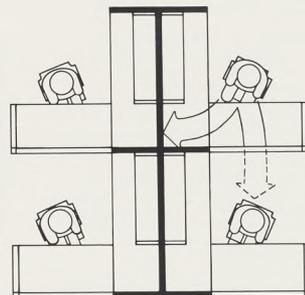

figure 1
1. Minimal speech privacy—a condition of privacy in an open plan in which the intelligibility of overheard speech remains low enough not to attract attention to its meaning. (See figure 1).